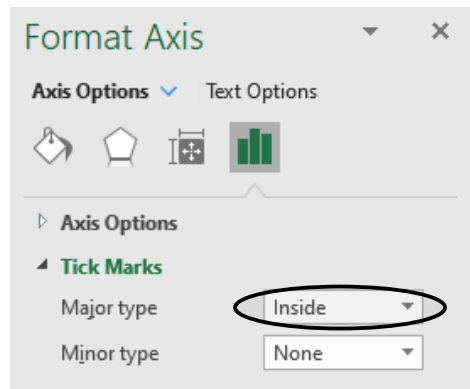

Figure 15: **Format Axis** toolbar with the **Tick Marks** dropdown menu open with **Major Type** drop-down menu circled
**Right-click** on the axis, then select **Format Axis**, which will cause a toolbar to appear on the right of the window. In the **Axis Options** tab in the **Format Axis** window, click the **Tick Marks** drop down menu and change the **Major** type to **Inside** as seen in Figure 15. Repeat this procedure for the other axis by either repeating the steps or using the **Axis Options** drop down menu in the toolbar to change to the other axis.